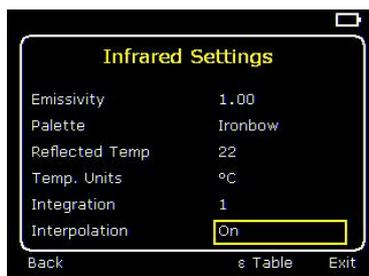

Fig. 4
3. Use the up/down navigation buttons  to highlight the Interpolation option (Fig 4).